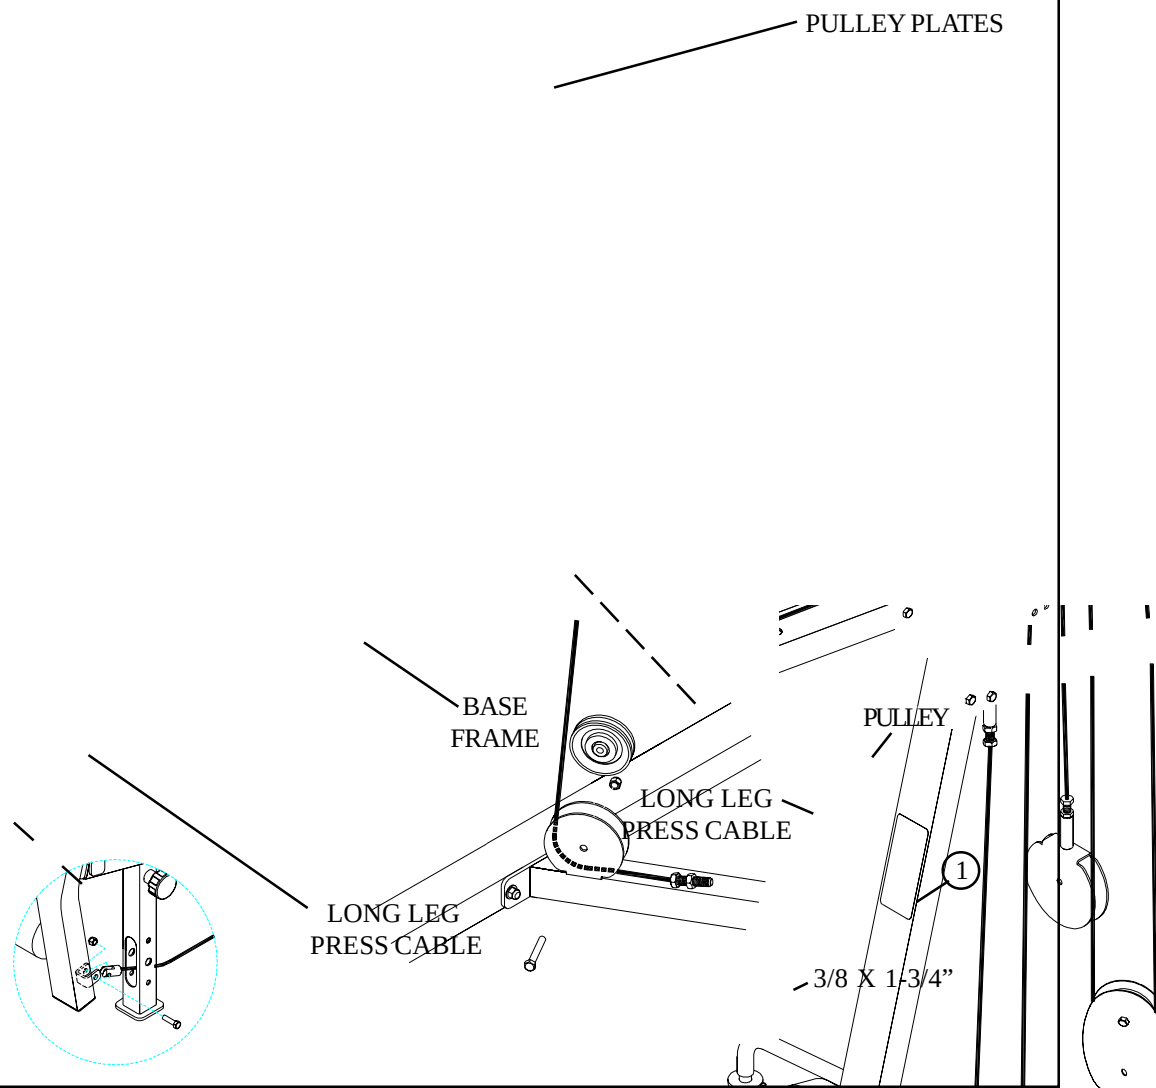

FIGURE 21
- Assemble the LONG LEG PRESS CABLE (from the 883 LEG PRESS OPTION box) to the PEDESTAL and route the LONG LEG PRESS CABLE thru the BASE FRAME as shown in FIGURE 21. **(NOTE: Remove pulleys for ease of installation.)**
- Route the LONG LEG PRESS CABLE around the 3-1/2" PULLEY on the PULLEY PLATES using one existing 3/8 X 1-3/4" BOLT and one existing 3/8" LOCK NUT. See FIGURE 21.
- Route the LONG LEG PRESS CABLE around one previously removed 3-1/2" PULLEY and assemble to the bracket on the BASE FRAME using one existing 3/8 X 1-3/4" BOLT and one existing 3/8" LOCK NUT. See FIGURE 21.